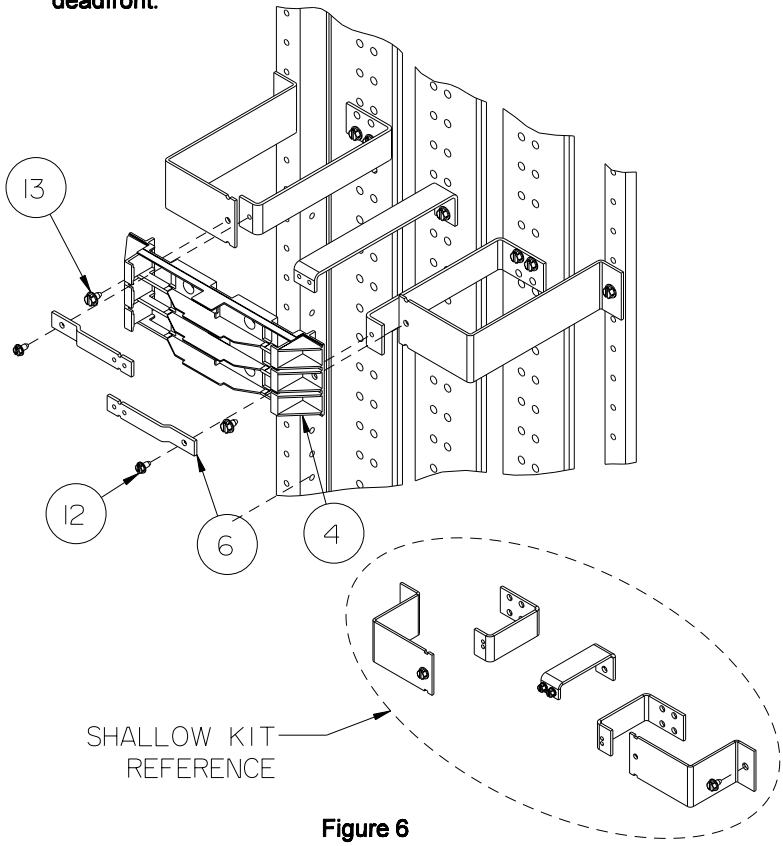

Figure 6
- 7. Reference fig. 6 - Installing the Top Barrier and Branch Connectors. Insert a 1/4-20 X 3/8" screw (item 13) through each of the 0.25" diameter holes in the Top Barrier (item 4) and into the 0.228" diameter holes in the Barrier Supports and tighten. Insert a 10-24 X 3/8" screw (item 12) through the 0.218" diameter hole in a Branch Connector (item 6) and into the 0.171" diameter hole in the Aø Strap and tighten. Insert a 10-24 X 3/8" screw (item 12) through the 0.218" diameter hole in a Branch Connector (item 6) and into the 0.171" diameter hole in the Cø Strap and tighten. Torque all hardware as specified on the rear of the deadfront.